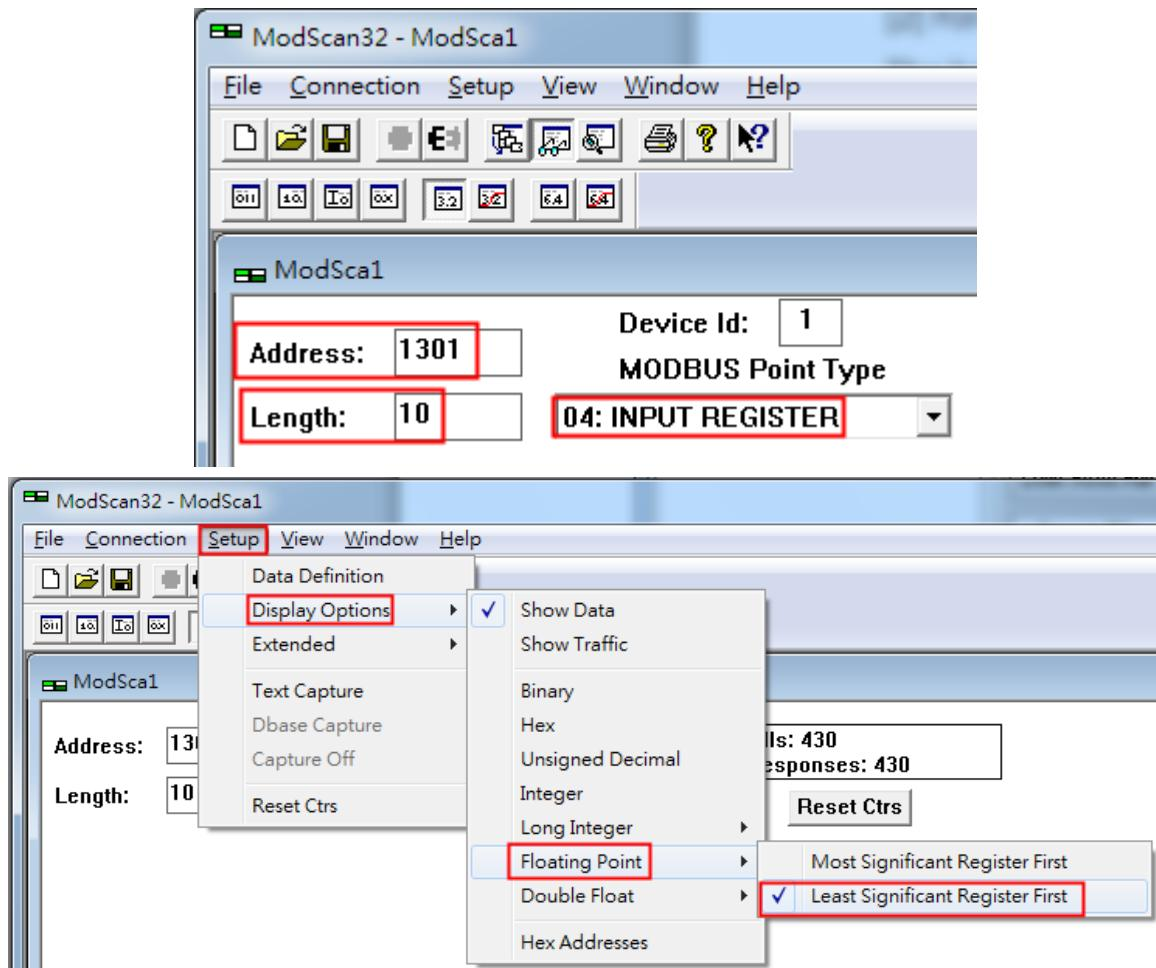

Figure 3-5 : Modscan settings
(3) The below MB/RTU client will use the “**ModScan**” and “**Modbus Poll**” tool to show the CMD(3) data of HART device by polling Modbus address 1300 ~ 1309.
- [3] **For example : Modscan** (Figure 3-5)